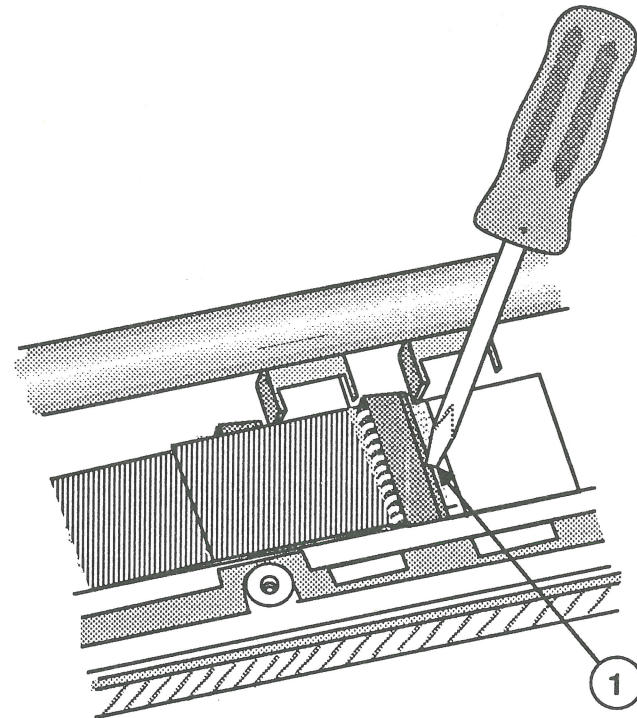

FIGURE 17
4. Place the small, flatblade screwdriver in the slot of the flexible relay PCB connector (Figure 17, #1). Gently rotate the screwdriver in either direction until the sliding portion of the connector moves away from the rest of the connector. Slide the cable from the connector.